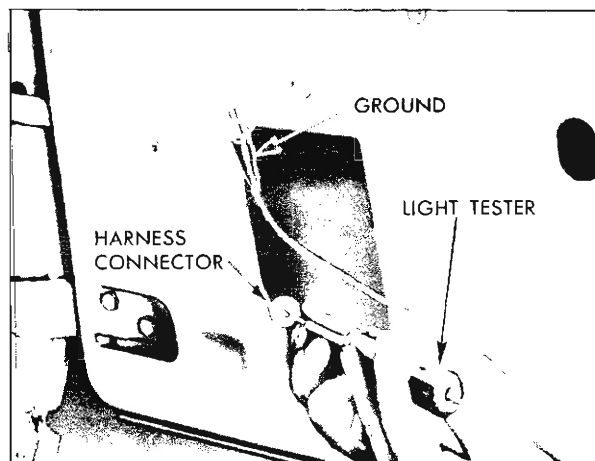

Fig. 9-5 Checking Circuit Between Switch and Motor
3. With light tester check for current at terminal being checked. If tester does not light, there is an open or short circuit in the harness between the control switch and motor connector (see Fig. 9-5).